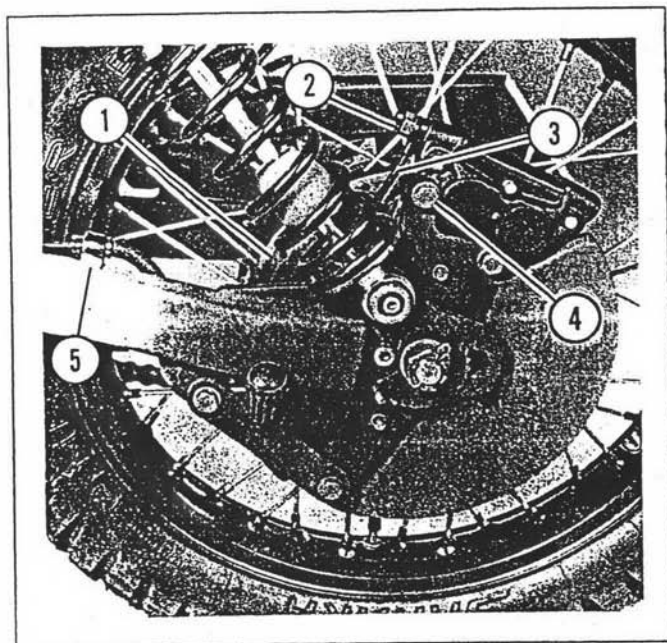

Figure 2-31. Rear Brake Assembly
1. See Figure 2-31. Check disc (1) for scoring, distortion, warpage, heat checking, cracks, or other damage. Refer to *Service Manual* for repair procedures.
2. Check for leaking caliper (2) and/or hydraulic line (3). Refer to *Service Manual* for repair procedures.
3. Check caliper mounting screws (4) for tightness. Be sure the hydraulic line mounting clamp (5) is present and is securely fastened.